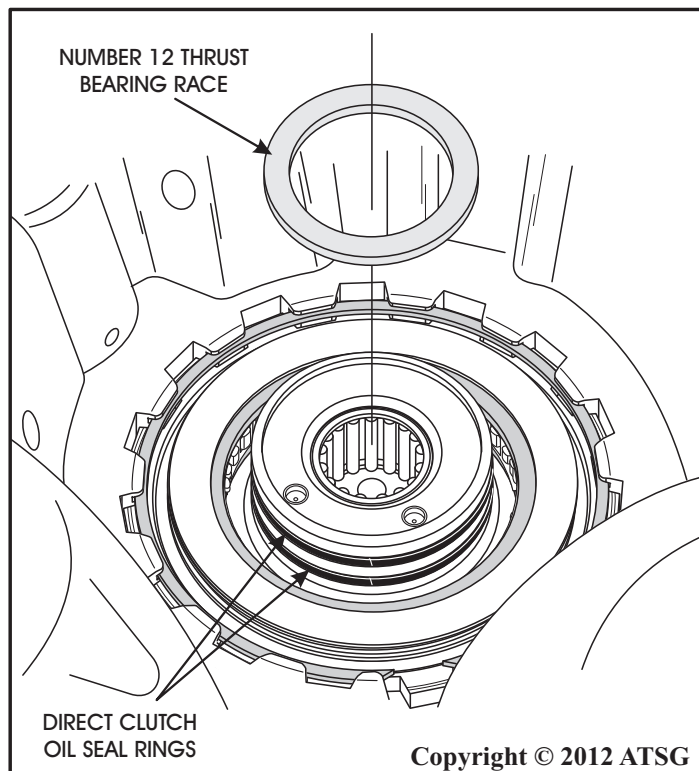

Figure 275
75. Install the number 12 thrust bearing race on top of seal ring tower in direct planetary case bore, as shown in Figure 275, and retain with a small amount of Trans-Jel®.
76. Ensure that direct clutch seal rings are still properly seated, as shown in Figure 275.